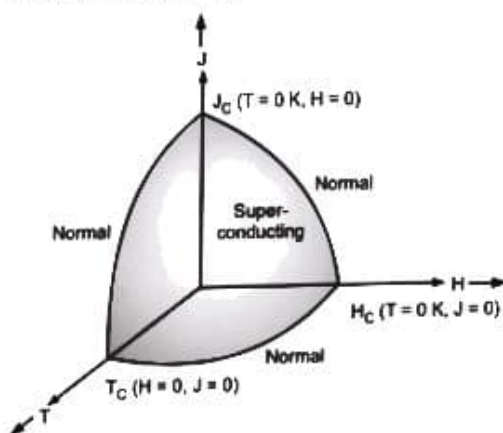

Fig. 5.11
- As critical current falls with the temperature, the critical magnetic field will also decrease as the transition temperature is approached. The variation of critical current density J_c and critical magnetic field H_c with temperature is shown in Fig. 5.11.
- Fig. 5.11 shows the combined effects of temperature, current density and magnetic field on a superconductor. The boundary separates superconducting and normal states. Within the boundary, the state is superconducting.